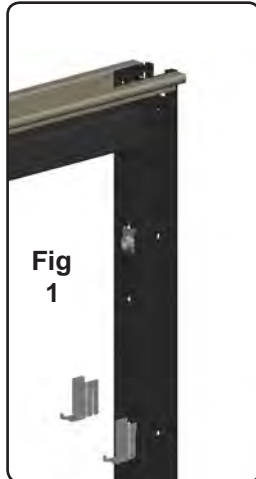

Fig 1
IMPORTANT - End of base feed with exposed wires **MUST BE RUN THROUGH ELECTRICAL TILE duplex hole BEFORE** hardwiring to building power. (Fig 1)
IMPORTANT : End of base feed with exposed wires **MUST BE RUN THROUGH ELECTRICAL TILE duplex hole BEFORE** hardwiring to building power. (Fig 1)
GLASS TILE INSERT INSTALLATION: Locate electrical pass through hole which is nearest the bottom of where the insert will be suspended. Insert Mid Bottom Glass Holders into the electrical hole so that the "slots" on the holder "hooks" onto the bottom edge of the electrical hole. (Fig 1) Repeat on the other side of the frame.
TILE INSTALLATION - Mid Tile Retainers are required BETWEEN every tile indicated on the elevations print. (See Previous page). All Matrix tiles are installed by inserting top of tile under lip of the Tile Retainer (horizontal aluminum extruded bar) above where tile is to be installed. CENTER TILE ON FRAME and rotate bottom of tile inward above lip of tile retainer below tile installed. BE SURE TILE IS BETWEEN SIDE WALLS OF MID TILE RETAINER L-Clips located at the ends of each tile retainer. (Fig 1). LIGHTLY PUSH TILE DOWN to seat tile approximately 1/8 inch down into bottom channel. METAL AND LAMINATE TILES have foam blocks on the top of the tile which act as springs to push the tile down into place and act as anti-dislodgement for the tile. (Fig 2)
- 2) Using a #1 flathead screwdriver, GENTLY bend fabric tile retainer over to "grip" edge of fabric tile. (Fig 1)
MATRIX TRIM INSTALLATION - Matrix trim is designed to interlock with diecast parts. Endcaps and Hilos ship with the Diecast topcaps pre-installed. Installing an Endcap or Straight hilo requires lifting adjacent topcap and pressing end of topcap into diecast Endcap Topcap and engaging Endcap on frame while holding frame topcap into endcap. See Below. There are 2 types of HILO trim, specified by the situation. HILO situations at a 90 degree connector require a Connector Hilo Trim Kit (Fig 1). HILOS in a straight line require a Straight Line HILO trim kit (Fig 2).
PANEL TOP WORKSURFACE INSTALLATION - Remove Top Tile Retainers from frame on which panel top worksurface is to be installed. Install Panel Top Worksurface Support Brackets by laying over frame horizontal and “twisting” into place. (Fig 1) SLIDE BRACKETS SO THAT END OF BRACKET IS 5 INCHES FROM FRAME VERTICAL, (Fig 2). Install PANEL TOP WORKSURFACE TILE RETAINERS on frame where top tile retainers were. These special top retainers have slots in them where the wings on the countertop bracket are. Install Frame Topcap. Center Panel Top Worksurface over brackets and screw down with worksurface screws.
Matrix 1 to Matrix 2 Frame Connection - You can connect the latest version of Matrix frame to the previous version with the use of an adapter bracket. (Fig 1)